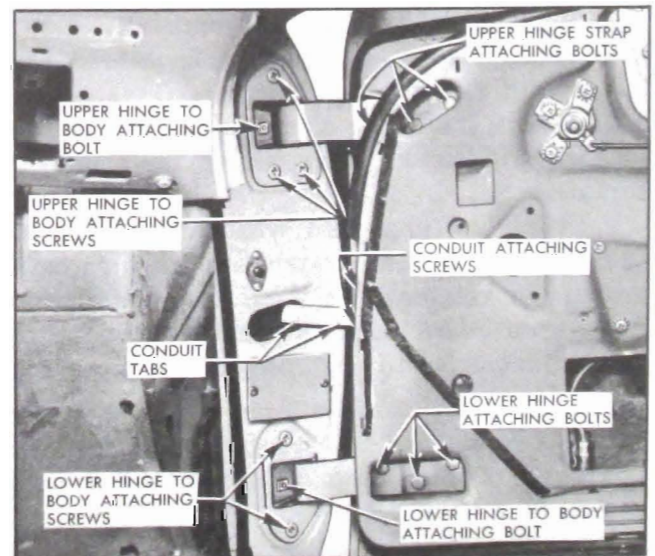

Figure 13-34—Front Door Hinges
2. Remove door trim assembly. Detach edge of door inner panel water deflector sufficiently to gain access to upper hinge strap bolts. Fig. 13-34.
(b) Remove screws securing electrical conduit to door hinge pillar, then bend down conduit tabs and remove conduit from wire harness, Fig. 13-34.
4. Scribe hinge strap locations on door. With door properly supported, remove hinge strap bolts securing door to hinge straps, Fig. 13-34.
deflector sufficiently to gain access to upper hinge strap bolts, Fig. 13-34.
(d) Loosen hinge strap bolts, Fig. 13-34 and shift door to desired position, then retighten bolts.